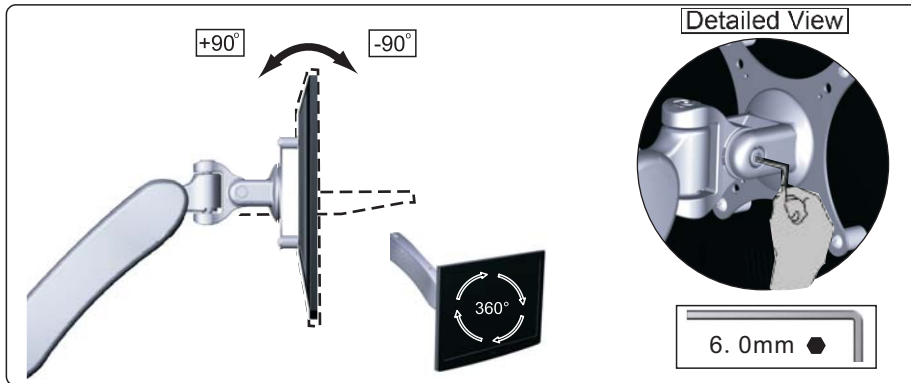

Figure 5-3
4. Referring to the weight of the display monitor. If the Tilter Mount Bracket tends to automatically fall, it may be required to adjust the Tilter Mount Bracket joint to suit your display monitor tilt position of forward and backward of 90 degree. This can be done by using Hex Allen Wrench 6mm(17) supplied, to increase the resistant of the Tilter Mount Bracket in order to secure tilt position, adjust the M5x15mm Tension Hex Socket Cap Screw located around the Tilter Mount Bracket Joint using the supplied 6mm Hex Allen Wrench. (See Figure 5-3)